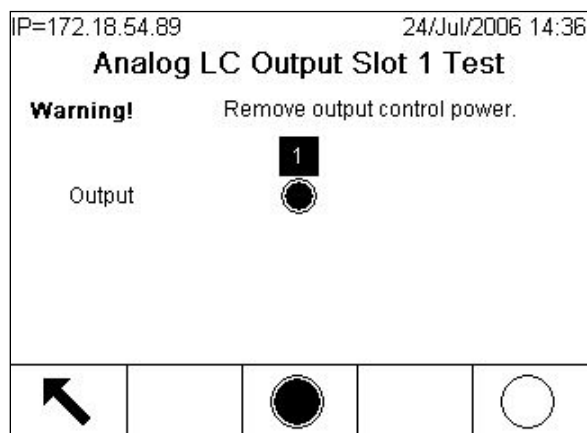

Figure 3-197: Analog LC Output Slot 2 Test Screen
4. With an output selected, press the DISCRETE OFF softkey  to turn it off, or press DISCRETE ON  to turn it on. Figure 3-197 shows the test screen for an Analog Load Cell, with its output turned on.